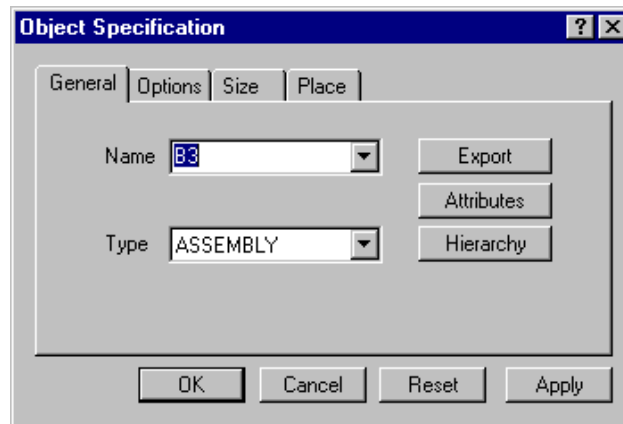

Figure 3.31 The object specification dialog box
- Once the user has clicked 'OK', the selected object will appear on the screen, and at the same time the object specification dialog box, shown in figure 3.31, with the default of 'General', will also appear on the screen which enables the user to continue his settings.